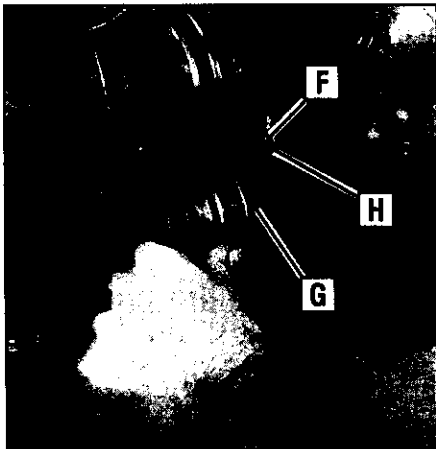

Figure 4-12: Remove clevis pin from outer hole in forward adjustable link and move to inner hole in link.
6. On the left side of the unit (as viewed from operator's position) remove the hairpin cotter from the clevis pin (F, Figure 4-12) that connects the forward idler arm (G) to the forward adjustable link (H). Push inward on the forward idler arm (G) and remove the clevis pin (F).
7. There are two holes in the forward adjustable link (H, Figure 4-12). Push inward on the forward idler arm (G) and install the clevis pin (F) through the inner hole in the forward adjustable link (H) and out through the single hole in the forward idler arm (G). Secure the clevis pin with the hairpin cotter.